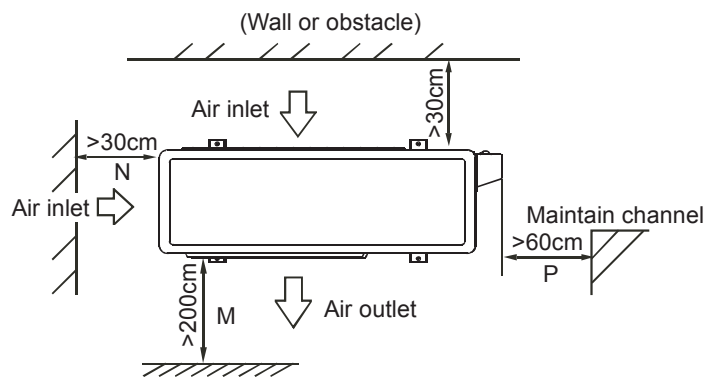

Fig. 6-5
- The minimum distance between the outdoor unit and obstacles described in the installation chart does not mean that the same is applicable to the situation of an airtight room. Leave open two of the directions (M,N,P) (Refer to Fig.6-5)